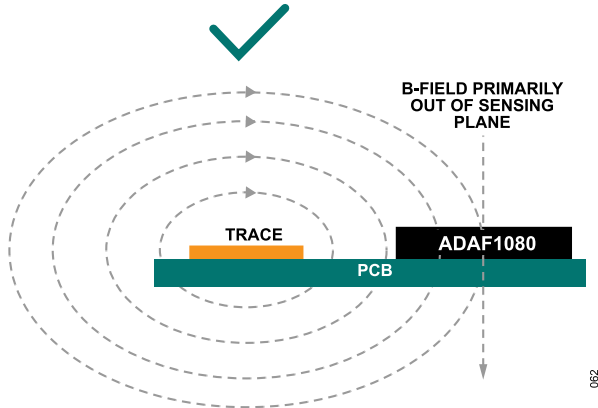

Figure 61. Current Carrying Traces on PCB Routed on the Same Layer as the ADAF1080
2. Route any current carrying traces to the ADAF1080 on the same layer as the ADAF1080. To a first order, the resultant magnetic field is perpendicular to the ADAF1080 (through the top of the package), as shown in Figure 61.